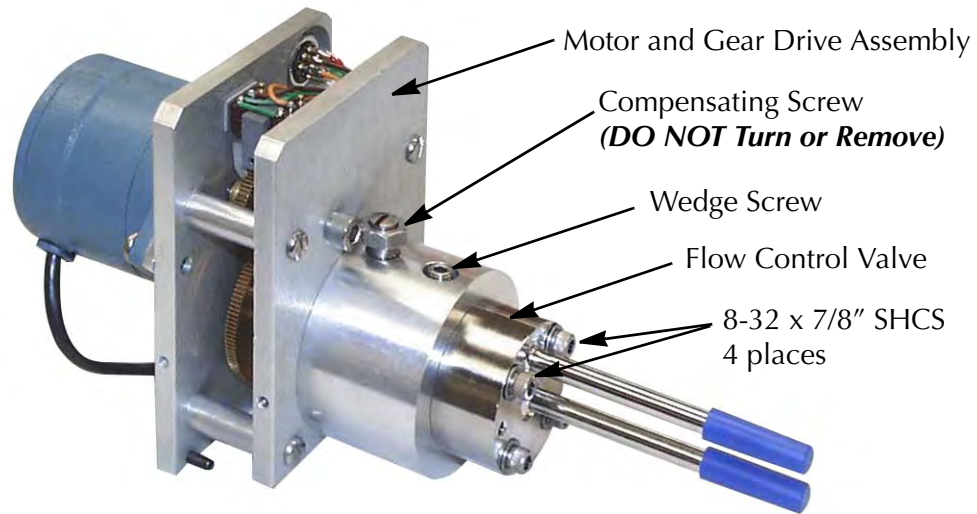
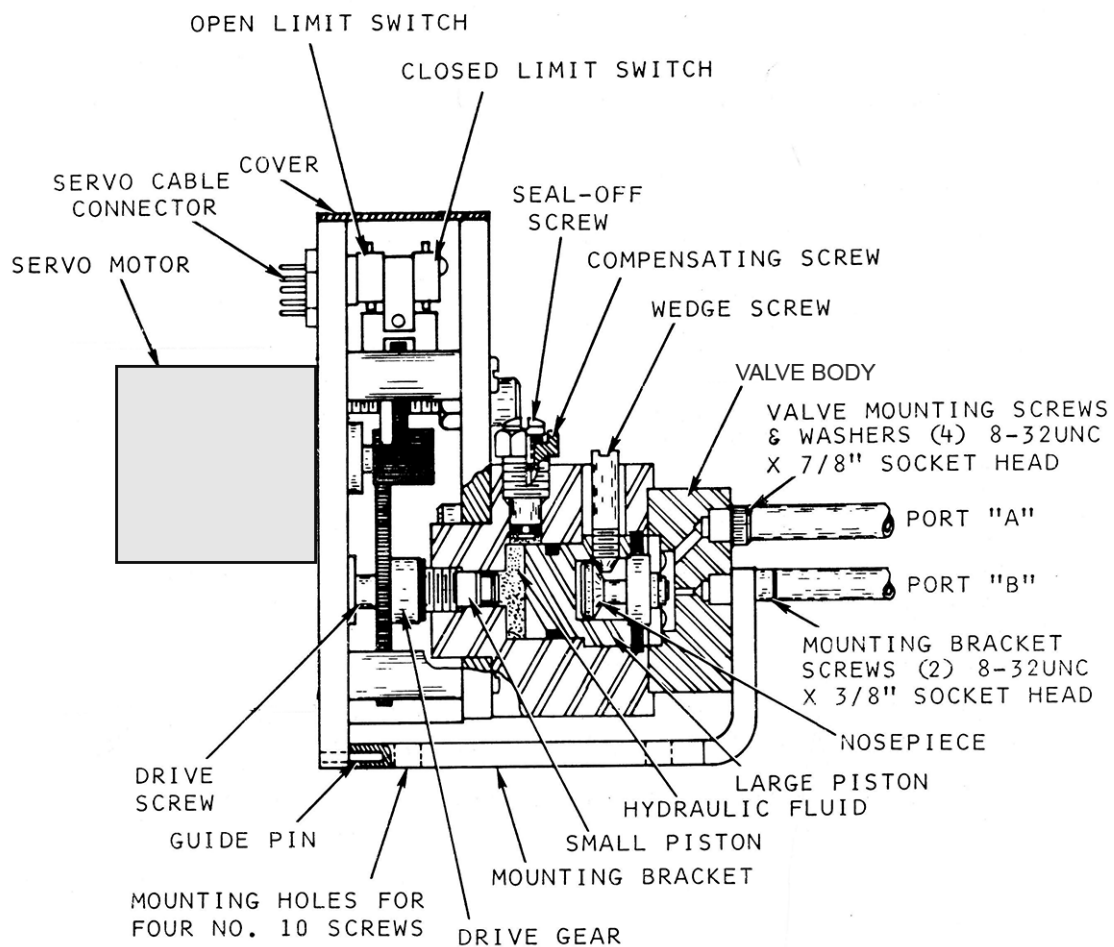

Figure 6-1: Series 245 Pressure/Flow Control Valve Assembly
Figure 6-4: Components of the Series 245 Pressure/Flow Control Valve
When the valve assembly is to be sealed during long periods, it may be desirable to control the ambient temperature of the valve. If the automatic control has been turned off, a drop of more than 10 °C may cause the valve to open slightly, permitting gas to leak into the system. If the valve has opened slightly due to an extreme decrease in temperature, it may be closed manually by turning the compensating screw (see Figure 6-1) clockwise 1/10 turn at a time.
The motor/driver assembly *must* be removed for any bakeout. During bakeout the valve must be held in the open position by the bakeout clamp. Prepare the valve for bakeout as outlined below. See Figure 6-1, 6-2, and 6-3. A cutaway illustration of the driver and valve assembly is shown in Figure 6-4.
4. Remove the wedge screw. See Figure 6-1 and 6-2.